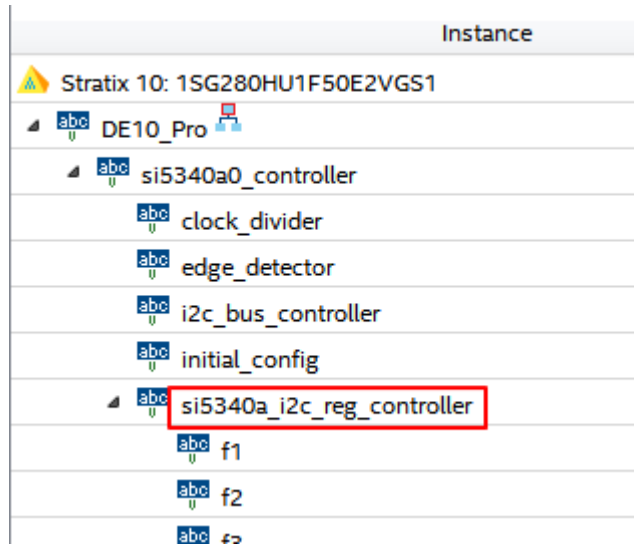
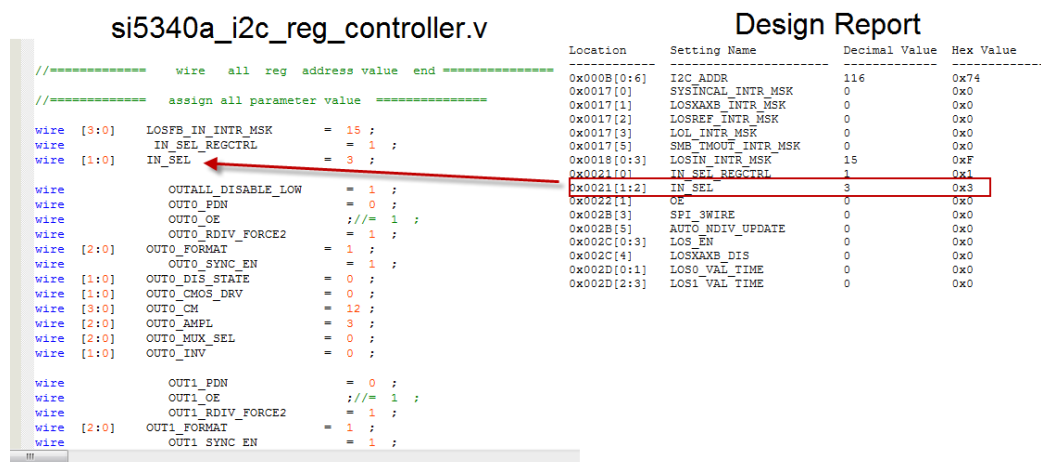

Figure 5-6 Sub-Module file "si5340a_i2c_reg_controller.v"
Figure 5-7 Modify Si5340 Control IP Base on Design Report
- Open Si5340 control IP sub-module "si5340a_i2c_reg_controller.v" as shown in **Figure 5-6**, refer to Design Report parameter to modify sub-module corresponding register value (See **Figure 5-7**).